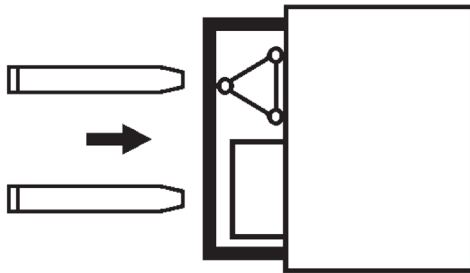
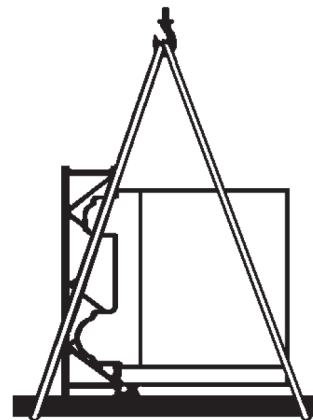

Figure 5.1
Figure 5.2
- use lift trucks as shown in figure 5.1 or cranes as shown in figure 5.2, when handling the material. The crane used can be the one forming part of the transportation vehicle itself or any other used in the construction site. It is necessary for the lifting equipment to have adequate strength to lift the load